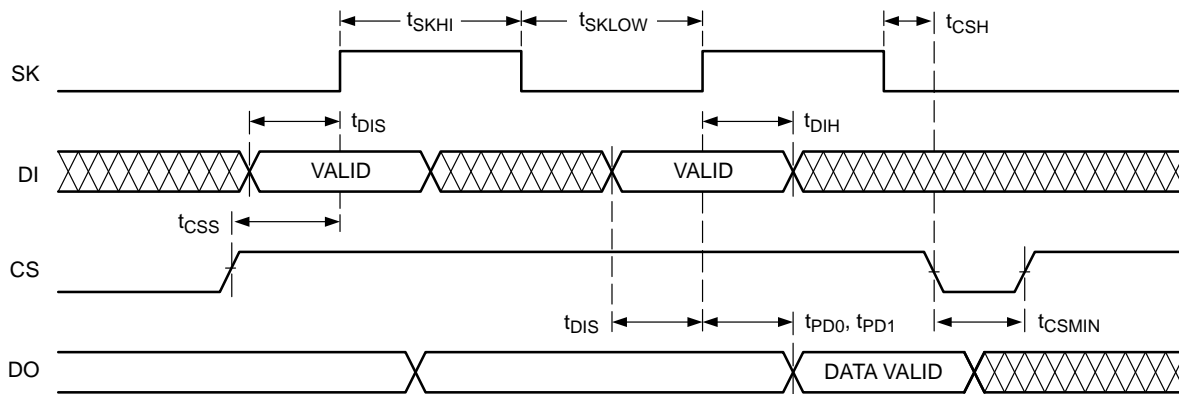

Figure 2. Synchronous Data Timing
Instructions, addresses, and write data are clocked into the DI pin on the rising edge of the clock (SK). The DO pin is normally in a high impedance state except when reading data from the device, or when checking the ready/busy status after a write operation. The serial communication protocol follows the timing shown in Figure 2.